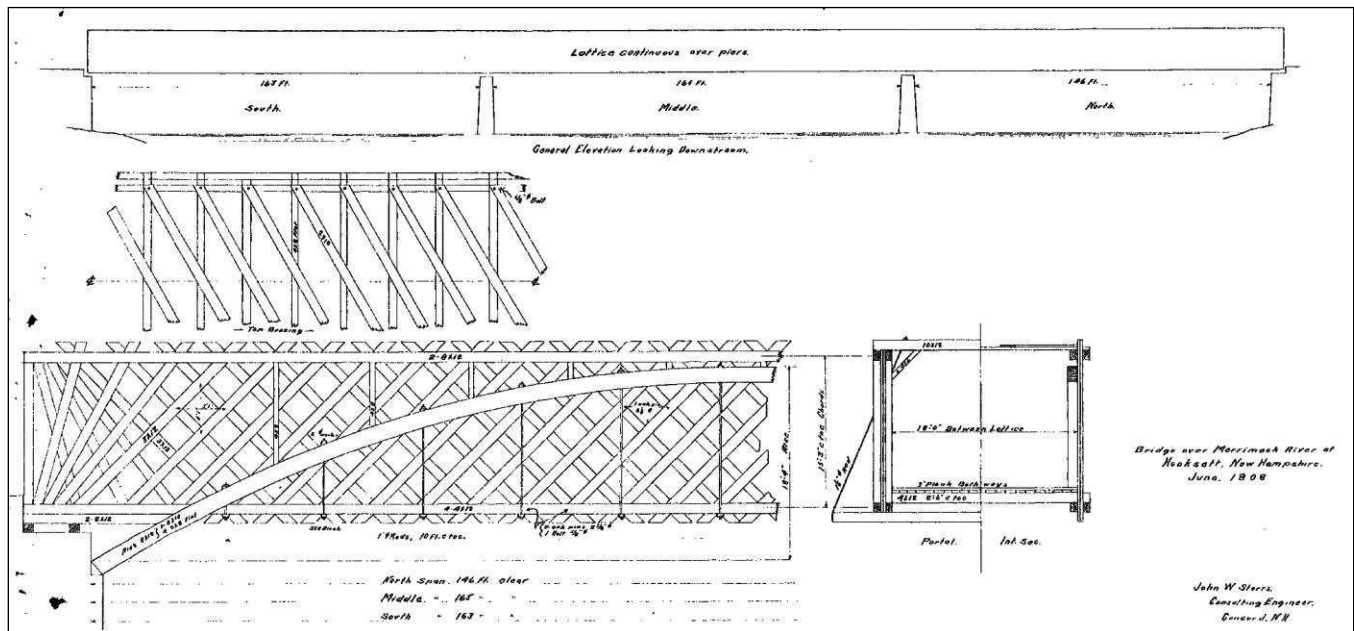

FIGURE 16: Inspection drawing of Hooksett Covered Bridge made by John Storrs for Town of Hooksett, June 1908 (Hooksett Heritage Commission).
- FIGURE 16: Hooksett Covered Bridge, 1859, drawing.